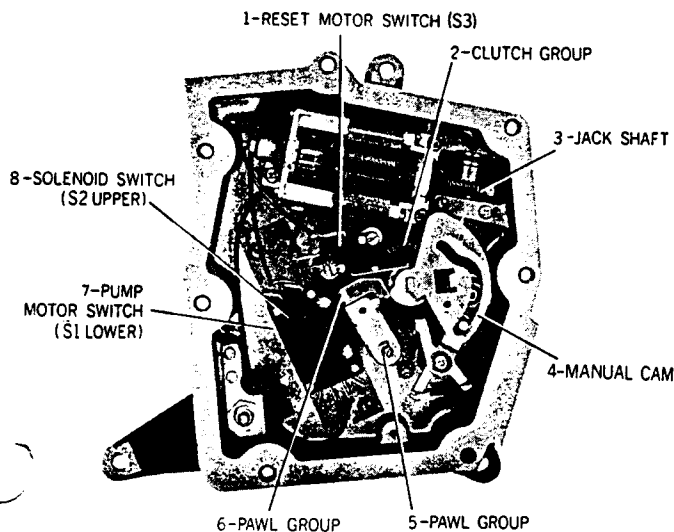

Figure 1. Series 7269 Electric Reset Parts Identification.
### A. SERIES 7269 ELECTRIC RESET. Figure 1.
1. General. The electric reset, Figures 1, 2 and 4, contains three switches.
### C. CLUTCH GROUP REPLACEMENT – SERIES 7269 ELECTRIC RESET. Figure 1.
### 4. Reset Motor Switch (S3) Replacement, item 1, Figure 1: